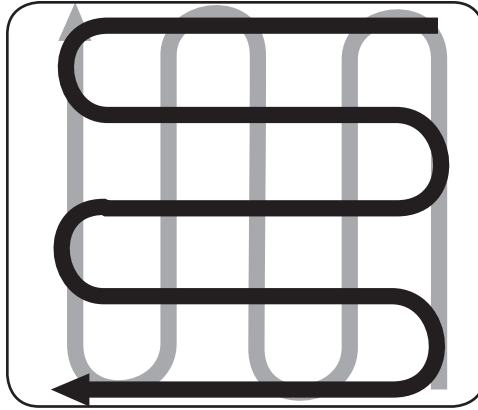

Figure 4-7
- When finished in one direction, make a second pass at a right angle, as shown in Figure 4-7. Overlap each pass for the best results (in very hard ground, it may take three or four passes to thoroughly pulverize the soil.)